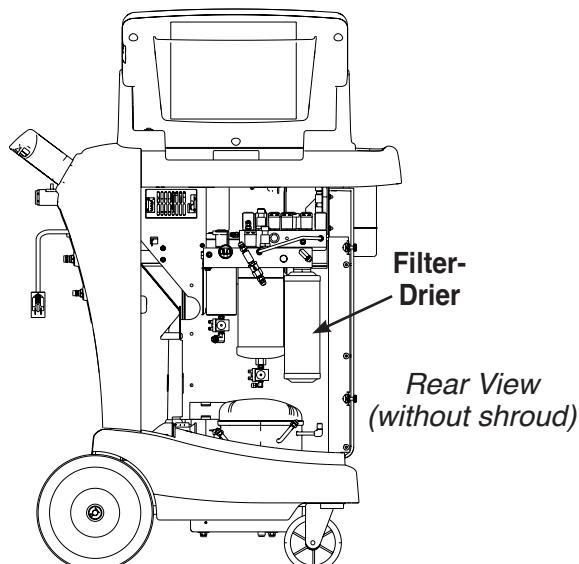

Figure 12
5. The display reads PLEASE REPLACE FILTER. Open the rear door of the unit and unscrew the old filter. See Figure 12.